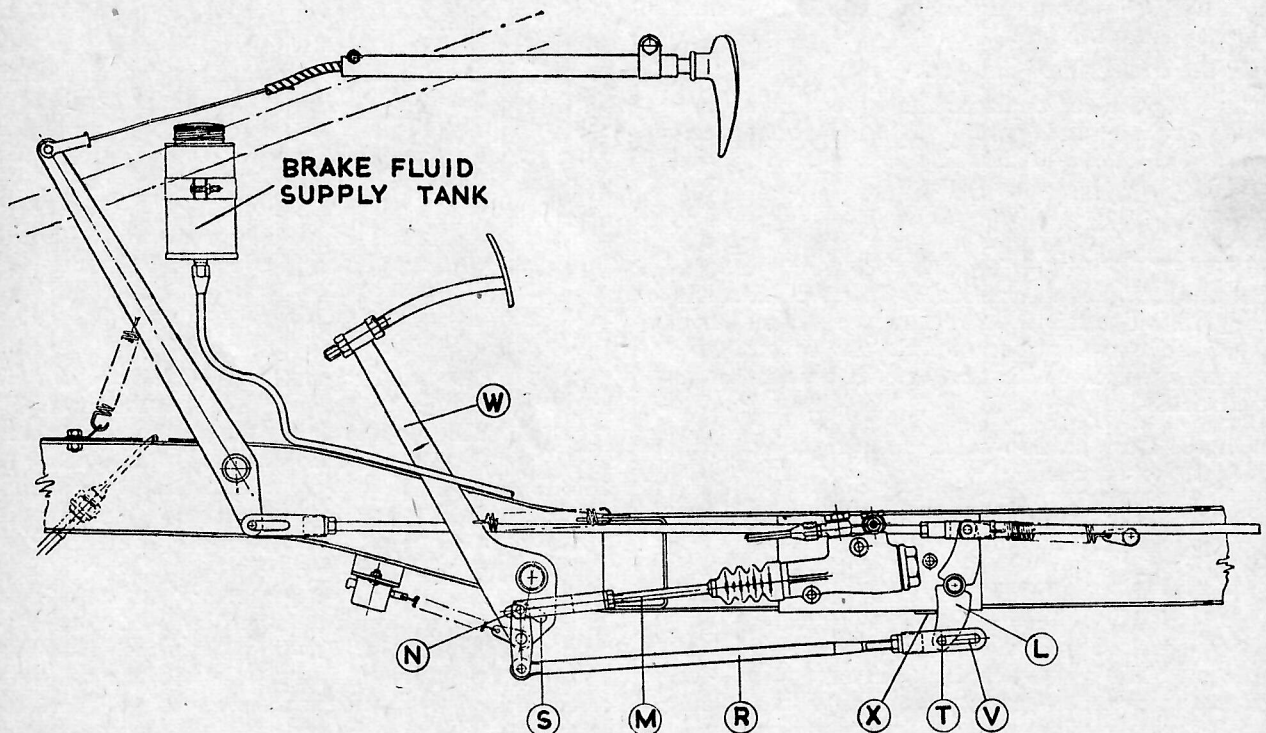

FIG. 7.—Layout of linkage and master cylinder (4AB).
**To Balance Front to Rear Brakes (Figure 7).**